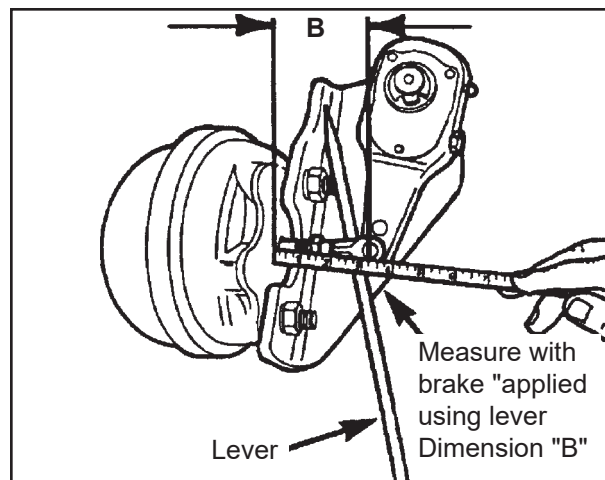

Fig. 6
2. With a lever, pry the brake adjuster arm until the brake shoes contact the drum and measure the brake adjuster movement (see **Fig. 6**).